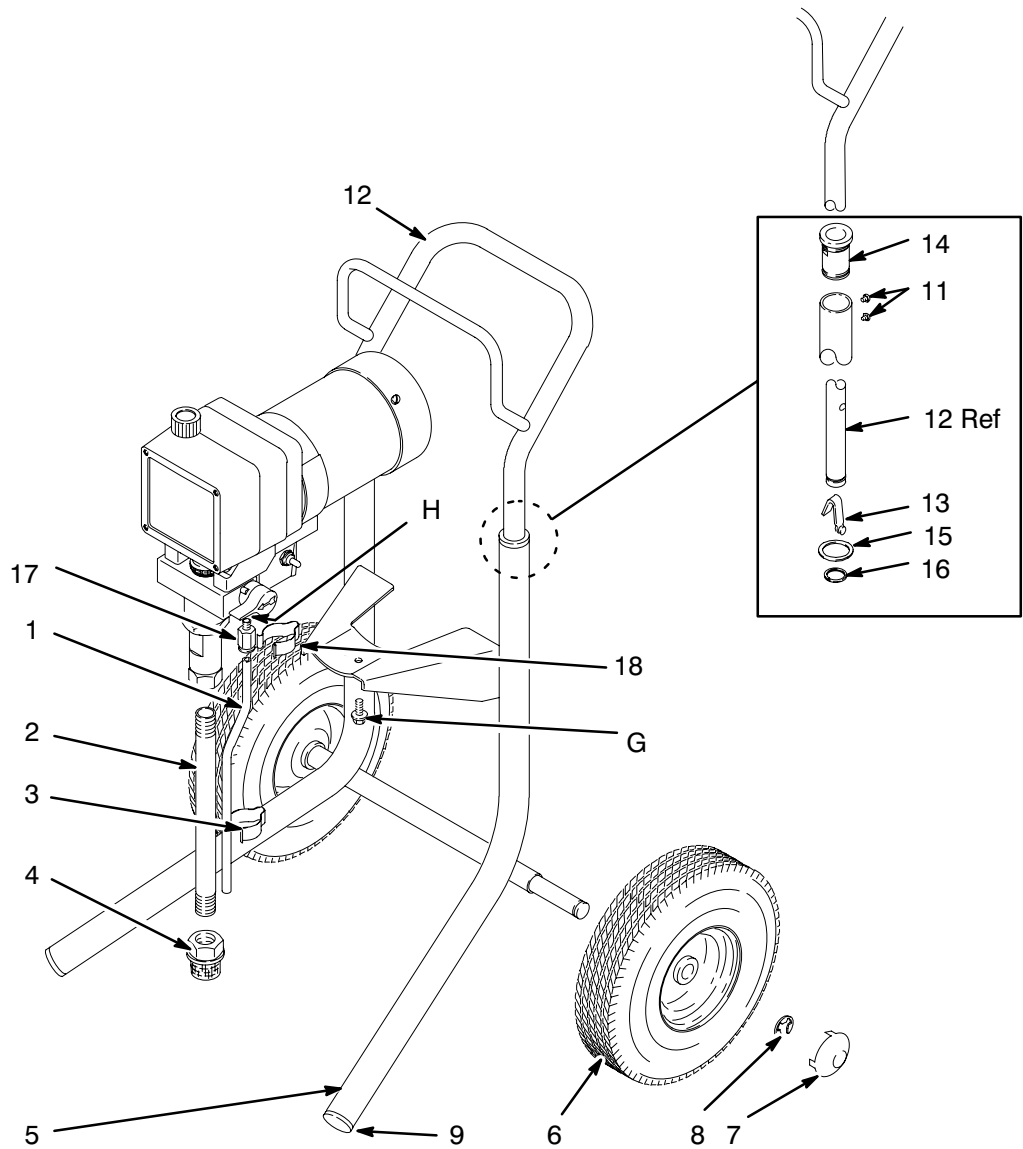

Fig. 3
6. Remove the two screws which hold the motor from the bottom of the motor mounting plate. Keep the screws (G). See Fig. 3.
7. Mount the sprayer to the new cart using the screws (G). Tighten to 50–55 in-lb (5.6–6.2 N.m).
8. Apply thread sealant (supplied) to the short threaded end of the suction tube (2). Screw the suction tube tightly into the pump. Screw on the strainer (4) until the tube end is about 0.3 in. (7 mm) from the wire screen. See Fig. 3.
9. Replace the drain hose nipple (H) with the adapter (17). Insert drain tube (2) into the adapter and secure it to the pump and suction tube with spring clips (3) and (18) See Fig. 3.